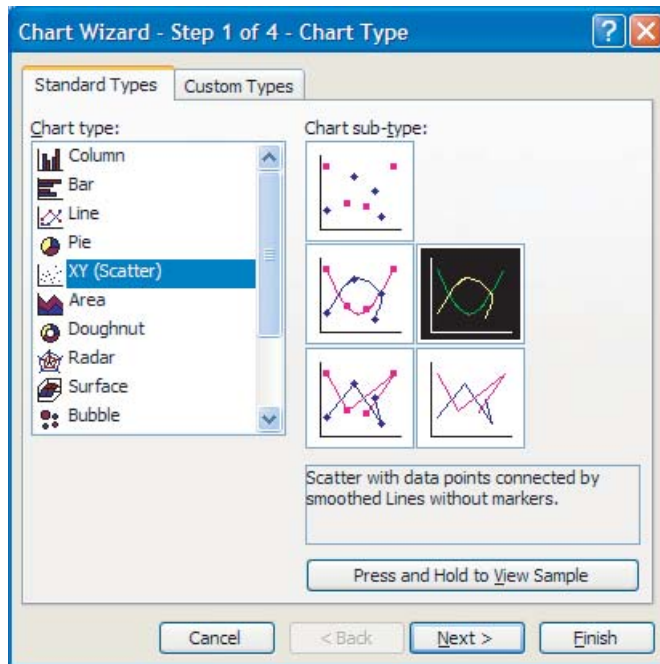

Figure 5–9 Chart Wizard - Step 1 window.
4. Click on the upper right cell of the three columns, as shown in Figure 5–8b. Hold the **Shift** key down while pressing the **End** key followed by the **Down Arrow** key to highlight the third column. Keep holding down the **Shift** key and press the **End** key followed by the **Left Arrow** key to select the three columns by 512 rows.
5. Click the **Chart Wizard** button  on the **Task Bar**. The **Chart Wizard** should open, as shown in Figure 5–9.
6. Choose the **X-Y (Scatter)** chart type and the **Smoothed Lines Without Markers** sub-type. Click **Finish** to display a graph of the spectrum, as shown in Figure 5–10a. If the **2f** curve appears flat, double click on it to get to the **Format Data Series Window**. Select the **Axis** tab, and select **Plot Series on Secondary Axis**, as shown in Figure 5–10b. Click **OK** to rescale the plot.